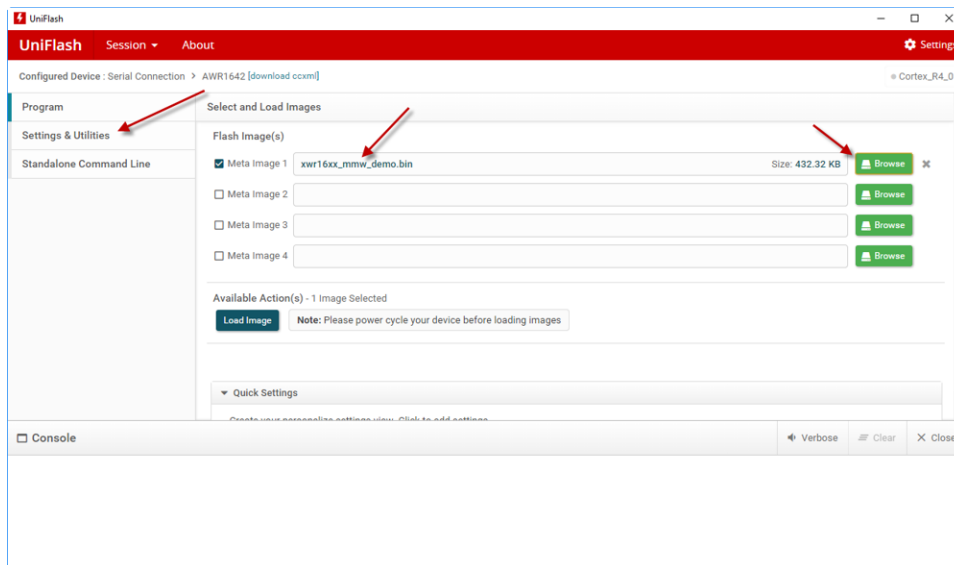

Figure 13. Uniflash Settings
- Next, click the *Browse* button and navigate to the binary file to load. After the name of the file populates the field, click on the *Settings & Utilities* menu on the left side of the program (see Figure 13).